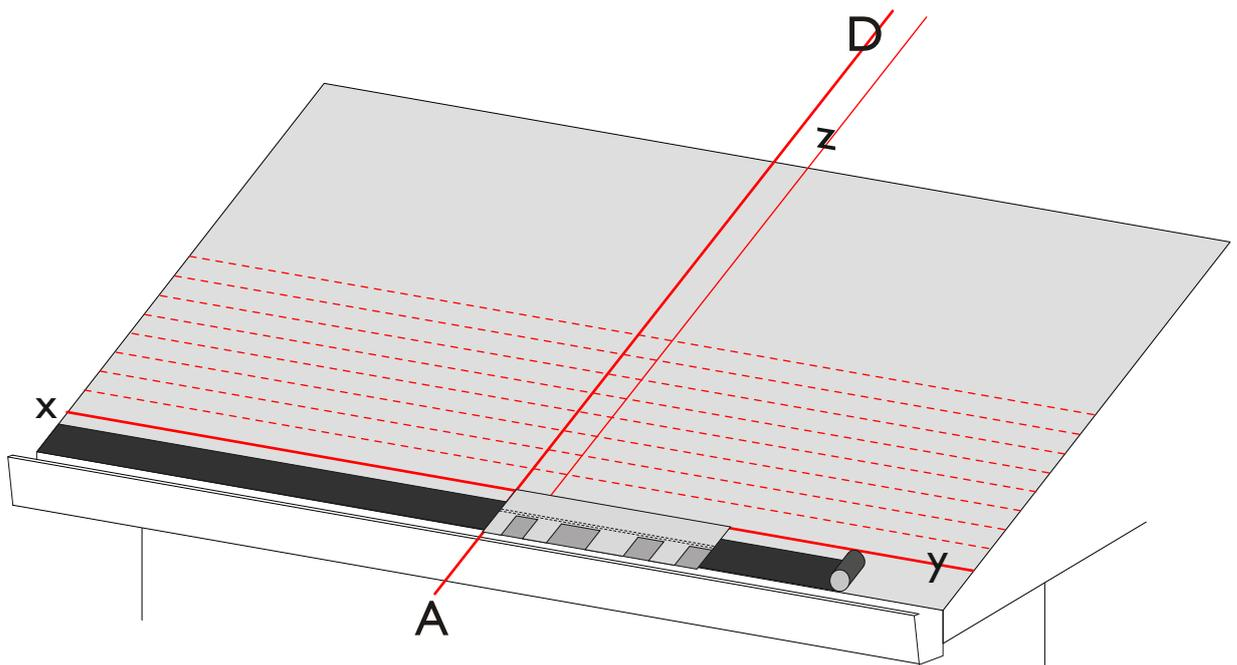

Fig. 2 - Torch-on membrane - 1st row
- Apply along the eaves 25 cm of torch-on membrane (Fig. 2);
- Install the first course of Master shingles from the line AD (Fig. 2).